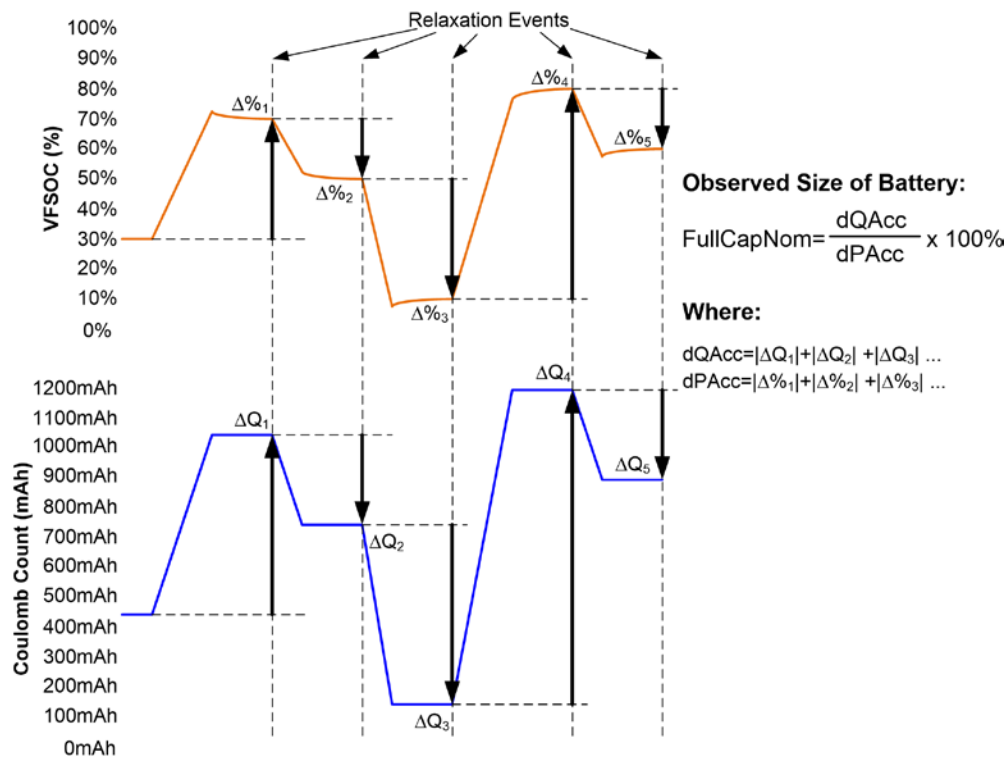

Figure 4. ModelGauge m5 learns full capacity during arbitrary cycling.
- Cell Capacity (FullCapNom Register). This is the total cell capacity at full, including some capacity that sometimes is not available to the application due to high loads and/or low temperature. The IC periodically compares percent change based on an open circuit voltage measurement vs. coulomb-count change as the cell charges and discharges, maintaining an accurate estimation of the pack capacity in mAh as the pack ages. See Figure 4.